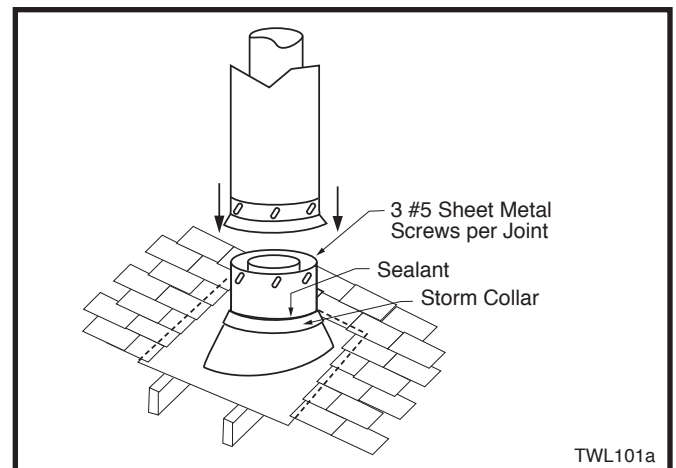

Fig. 36 Roof flashing.
7. Install roof support (Fig. 36 & 37) and roof flashing making sure upper flange is below the shingles. (Fig. 36)
8. Install appropriate pipe sections until the venting is above the flashing. (Fig. 36)
! The enlarged ends of the vent section always face downward. (Fig. 36)